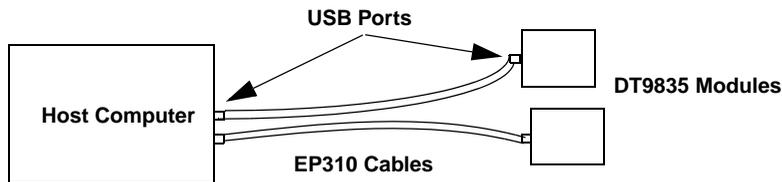

Figure 2: Attaching the DT9835 Module Directly to the Host Computer
2. Attach the other end of the EP310 cable to one of the USB ports on the host computer, as shown in Figure 2.